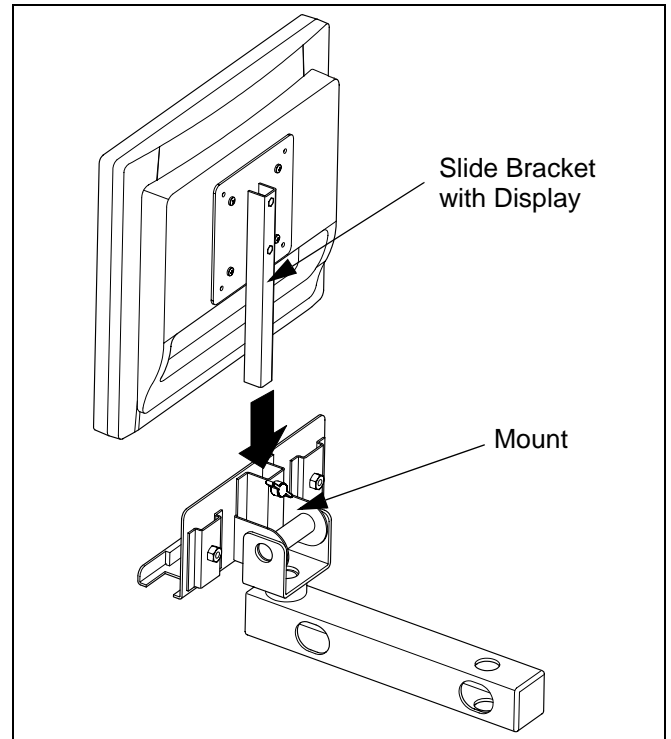

Figure 4: Assemble Interface Bracket With Display to Mount
3. Position slide bracket with display so that display is facing outward as shown in figure 4 below.